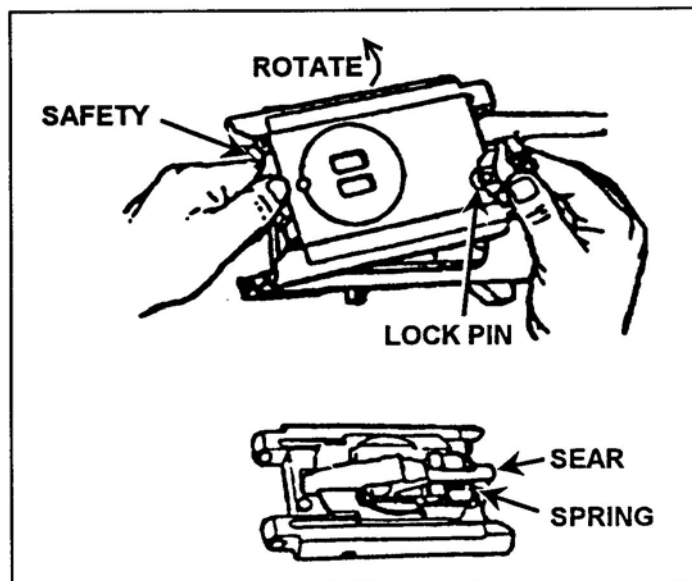

Figure 14. Removal of the receiver sear assembly.
- (1) Rotate the charger handle up.
- (2) Using either your fingers or a spent case, pry out on the lip of the lock plunger.
- (3) Lift up on the lock plunger to retract it; slide the charger assembly all the way to the rear.
- (4) Pull the charger assembly away from the receiver.
- k. Remove the receiver sear assembly (Figure 14).
- (1) Apply solvent to a rag or brush. Wipe or brush dirt away from all parts, especially the interior of the receiver housing, receiver rails, and feeder.
- (2) Swab out the bore and chamber, using a bore brush and RBC.
- (3) Wipe all parts dry.
- b. Clean the receiver sear assembly (Figure 14).
- (1) Use only cleaning solvent on a rag or brush.
- (2) Wipe or brush away dirt.
- (3) Wipe dry.